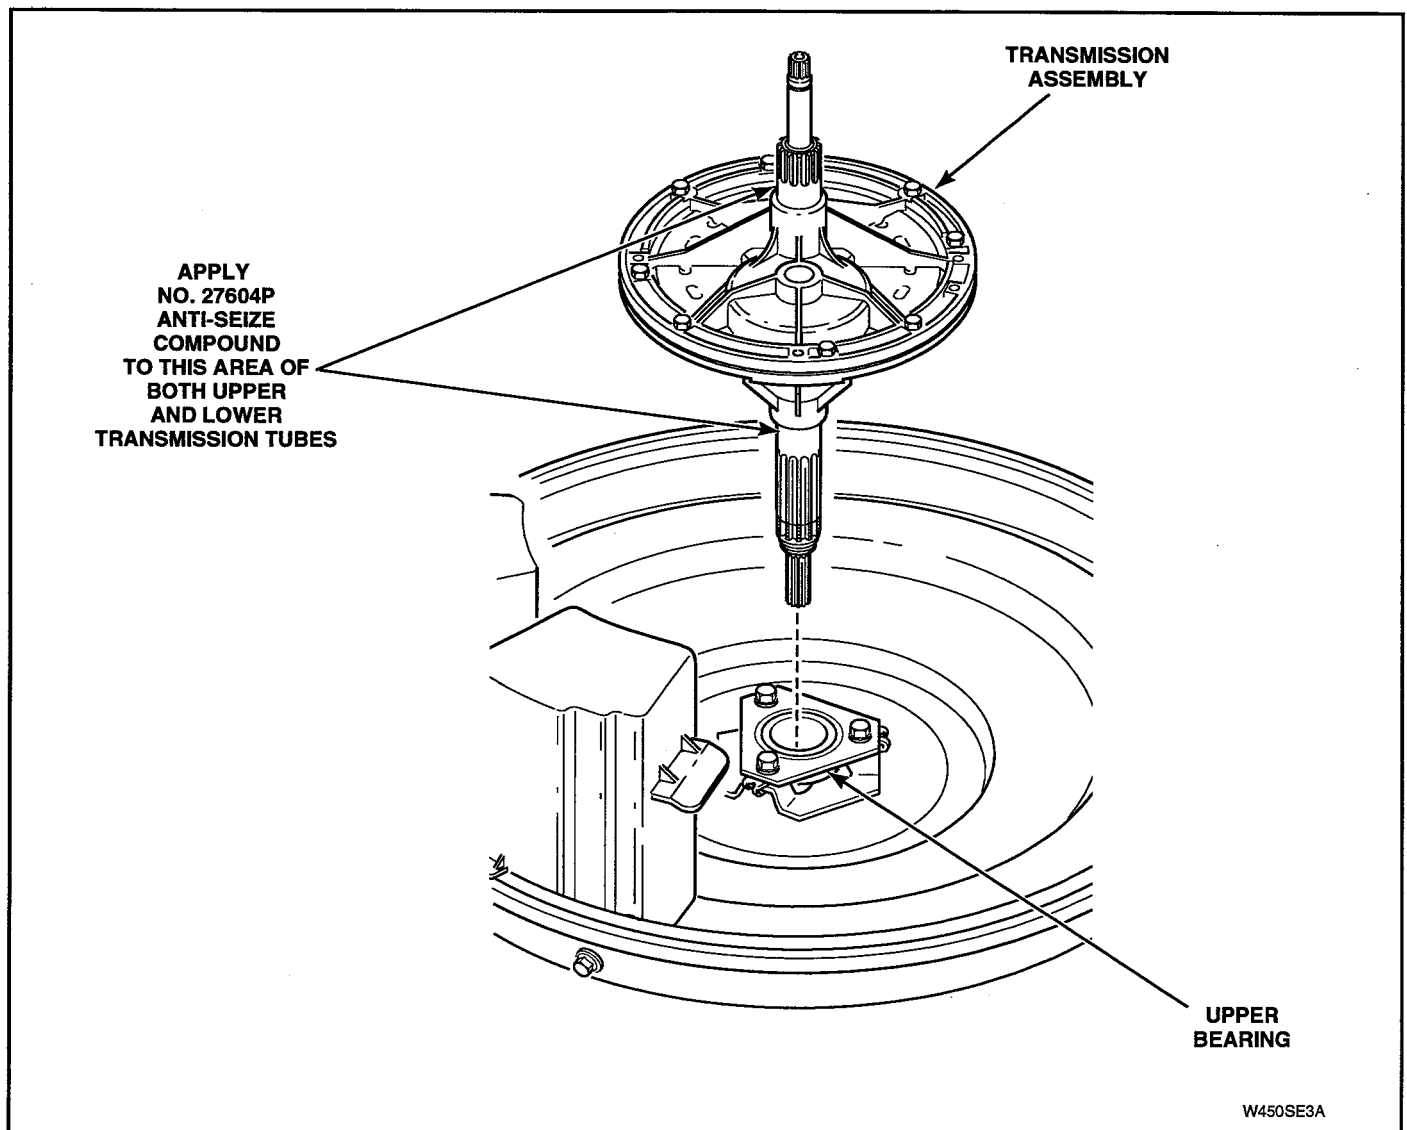

Figure 5-40
**NOTE:** When installing lower bearing, weldment assembly and brake assembly, apply No. 27604P Anti-Seize Compound to area of transmission tube that will be contacting bearing. See Figure 5-40.
**IMPORTANT:** When replacing or reinstalling transmission assembly, it is important that No. 27604P Anti-Seize Compound be applied to area of the transmission tubes where they will be contacting upper and lower bearings. See Figure 5-40.
- q. Apply Anti-Seize Compound, No. 27604P, to smooth area of both transmission tubes that will be contacting upper and lower bearings. See Figure 5-40.